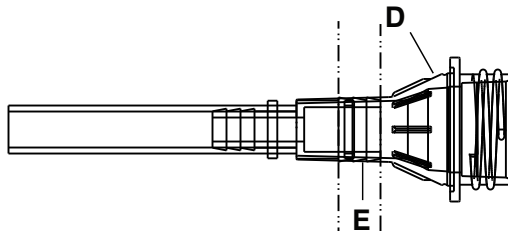

Figure 6: Install the cable tie to the valve body
12. Using a zip tie gun, center the supplied cable tie (E) around the valve body (D) and the reduction coupler fitting (Figure 6 on page 19).
14. Using a zip tie gun, center the supplied cable tie (E) around the valve body (D) and the reduction coupler fitting (Figure 6 on page 19).